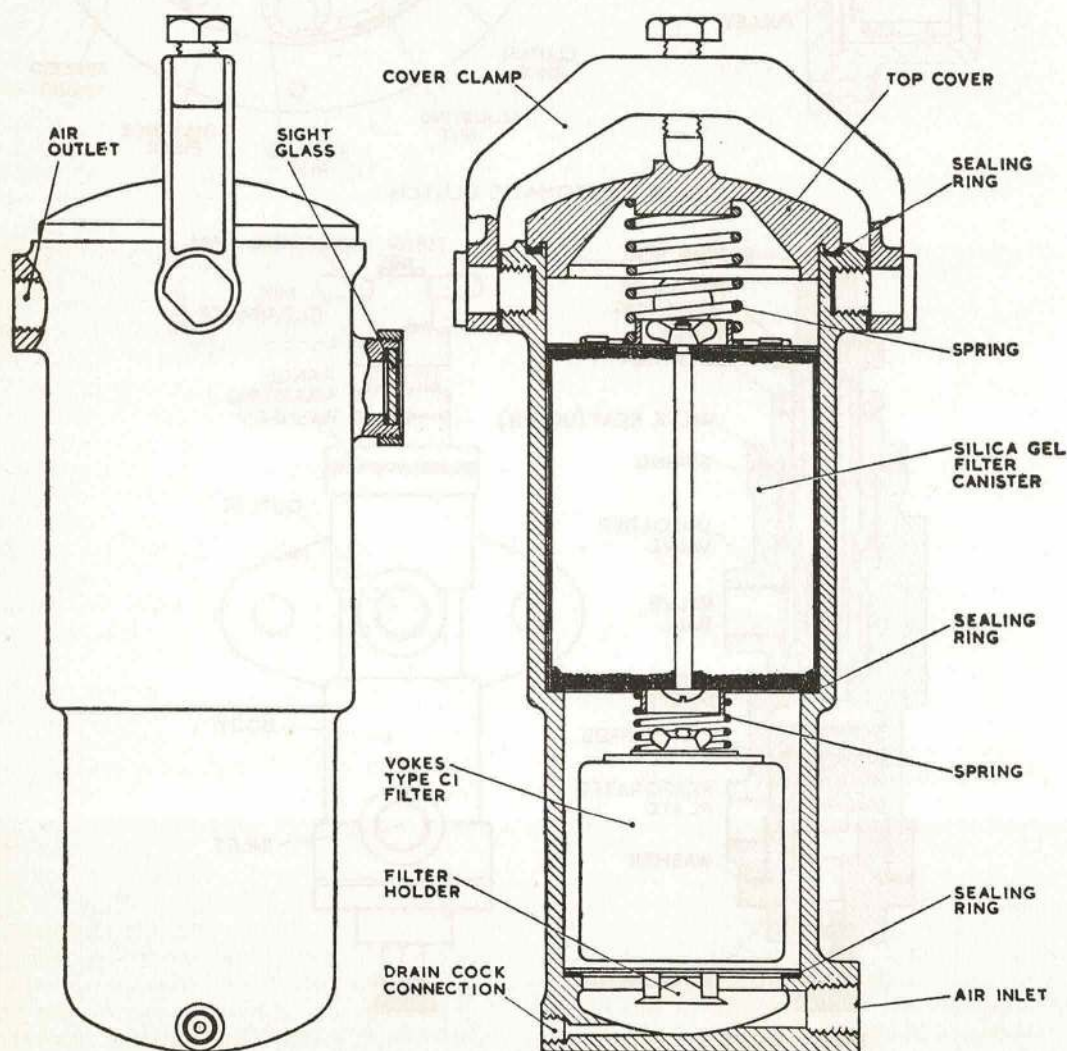

Fig. 12. AIR FILTER AND WATER SEPARATOR
29. Air Filter and Water Separator. This component (Fig. 12) contains a Vokes type C1 filter through which the air passes to a canister containing silica gel, the condition of which can be seen through a sight glass; when saturated, the canister is removed and exchanged for the dried out canister that is stored in the hot chamber. The felt element in the Vokes filter is removed, dried and cleaned at the approved servicings. Connected to the base of the unit is an **automatic drain valve** which traps water removed from the